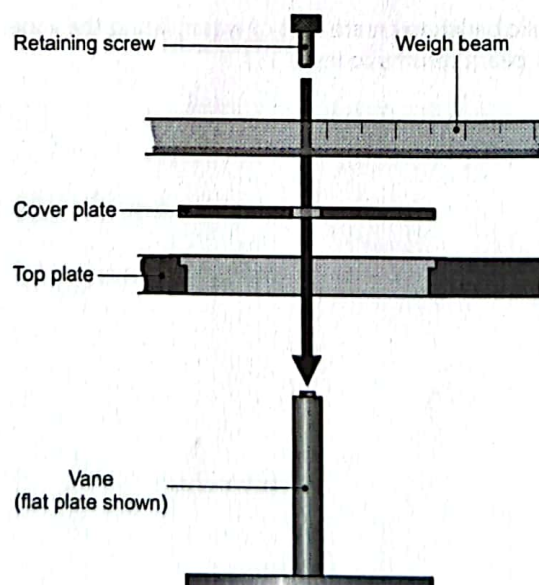

Figure 5 Fit the Vane
2. Use the retaining screw to fit your chosen vane (plate) and the cover plate (see Figure 5).